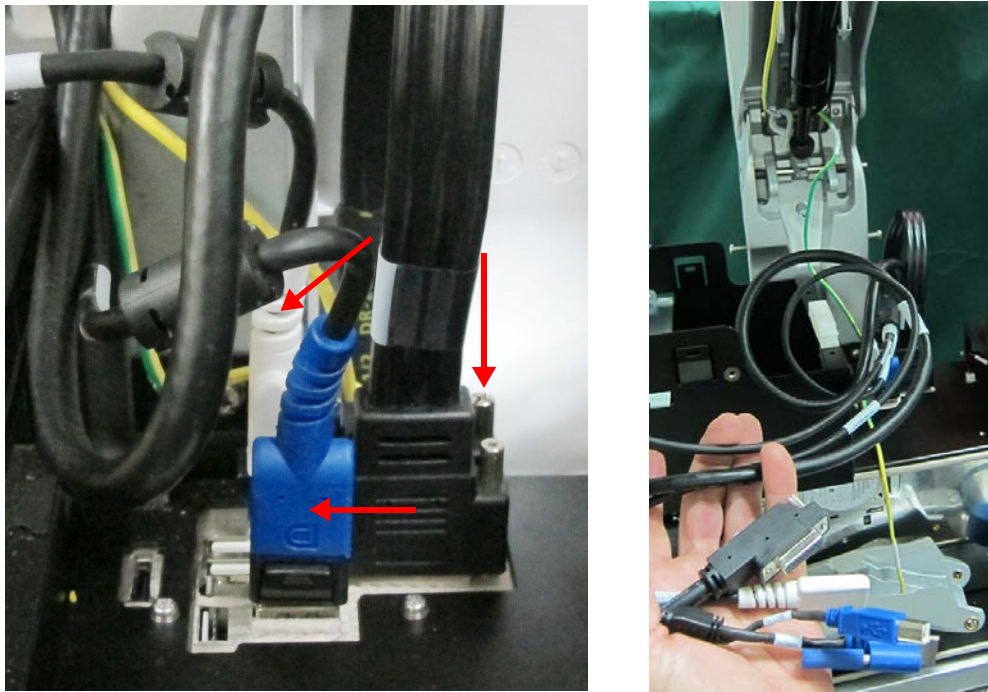

Figure 8-90 Cables Connected to Internal BIF Panel (Left) & Removed (Right)
13.) Disconnect the following cables from the internal BIF panel and remove them from the system - see Figure 8-90 below:
- OPIO display cable (at rear in Figure 8-90 below):
- 15.) Reconnect all the BIF cables previously disconnected from the BIF - refer to Figure 8-90 on page 8-71.